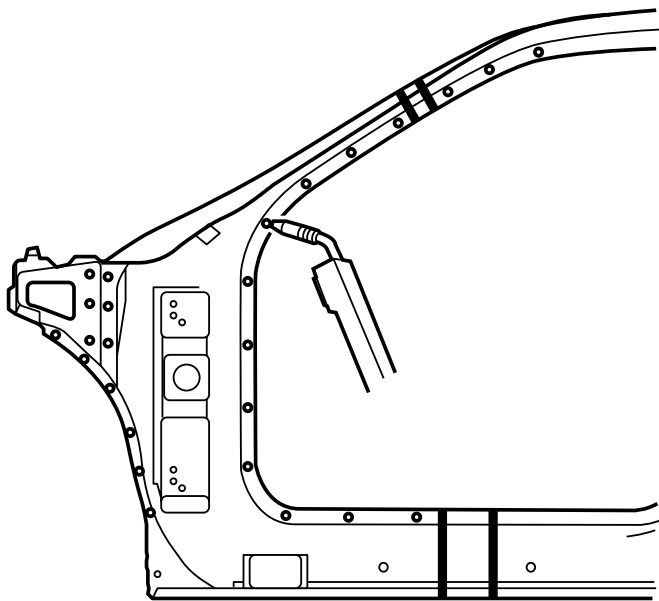

Fig. 1-4 — Plug Weld and Stitch Weld
6. Plug weld accordingly (Fig. 1-4).